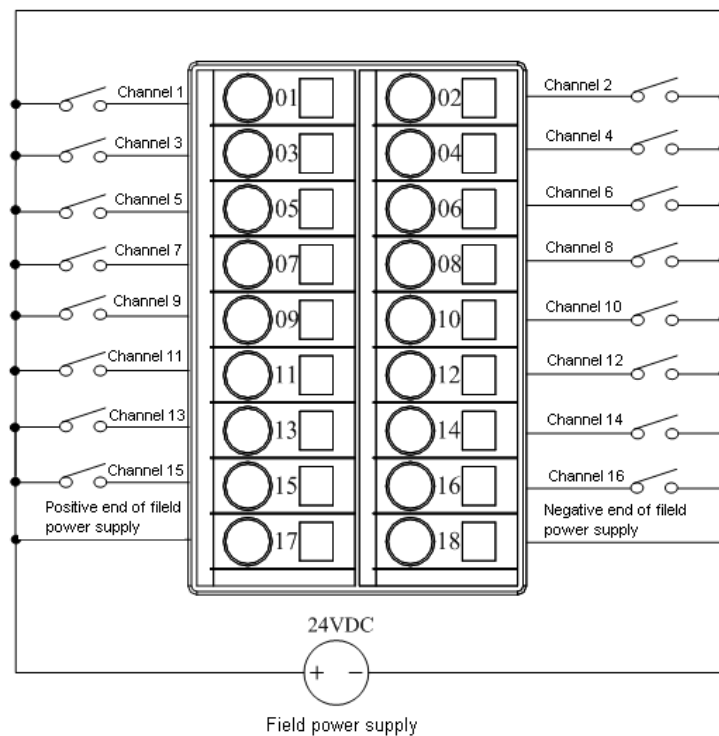

Figure 11.3: LK650 Terminal Wiring through Local Backplane
- LK650 are wired through the correspondence terminals under its local backplane installation slot. The relationship between its channels and the terminals is shown in Figure 11.3. One ends of the 16-channel contacts are connect to their corresponding wiring terminal (01~16) while the other ends are short connect to the positive end of the field power supply.